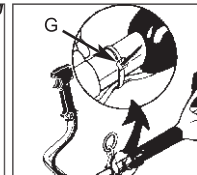

Fig. 1D
- Install wire tie (G) included in the user kit as shown (Fig. 1D).